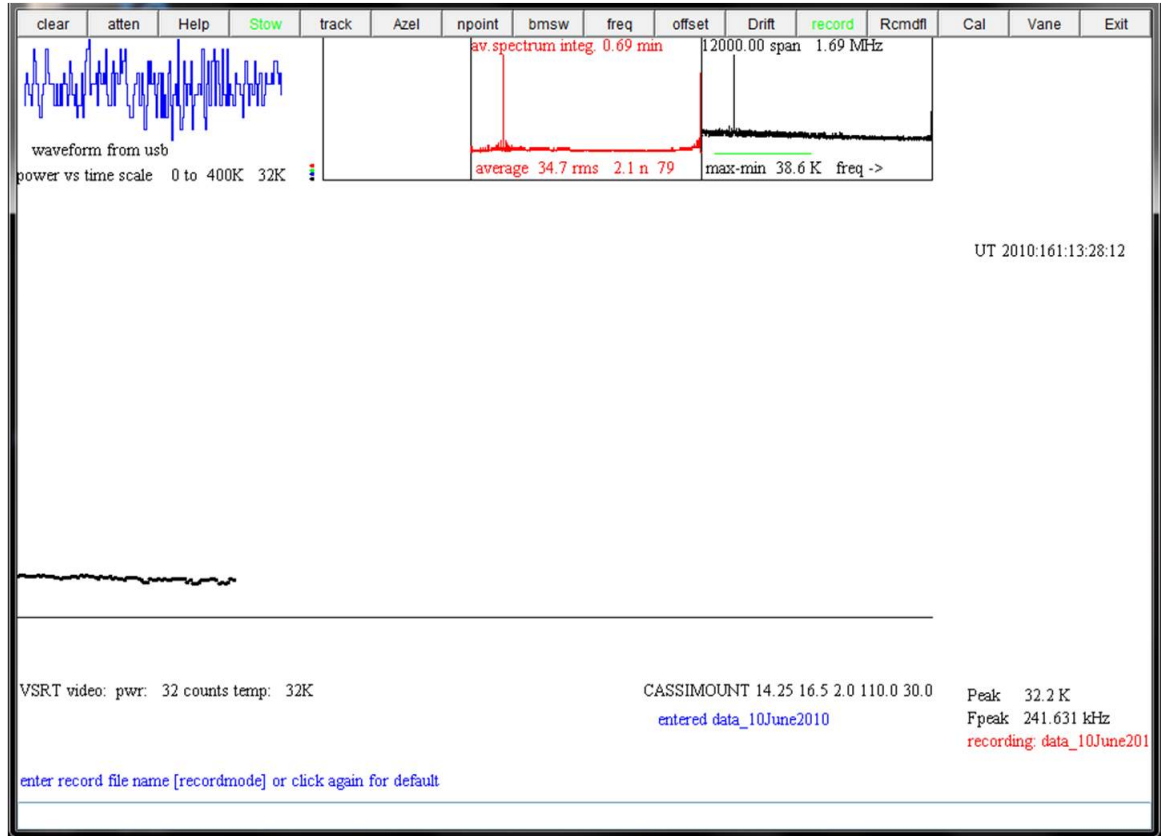

FIG. 4: Screen shot of a VSRT interferometer observation.
4. On the computer, click on the SRT/vsrt icon (with an image of a radio telescope). (like that shown in Figure 3. After a few seconds a display window like that shown in Figure 4 should appear. In the window, note the pair of similar looking panels side-by-side at the top. These two panels each show a spectrum and in each panel you should see a single sharp peak. This peak is the beat signal (discussed above). The
- (a) The first number indicates the antenna temperature (in Kelvin) of the beat signal, which is proportional to the detected power and hence a measure of the desired response of the VSRT interferometer. In Figure 4 the measured antenna temperature is 34.7 K.
- (b) The second number gives the rms in the average spectrum. In Figure 4 the rms is 2.1 K.
- (c) The third number, “n,” indicates the number of detections (or “integrations”) used in the average. In Figure 4,  $n = 79$ .
- (d) The uncertainty in the measured antenna temperature, which is “the uncertainty in the mean,” is the rms divided by the square root of  $n$ . In Figure 4, then, the measured antenna temperature is  $34.7 \pm 0.24$  K.